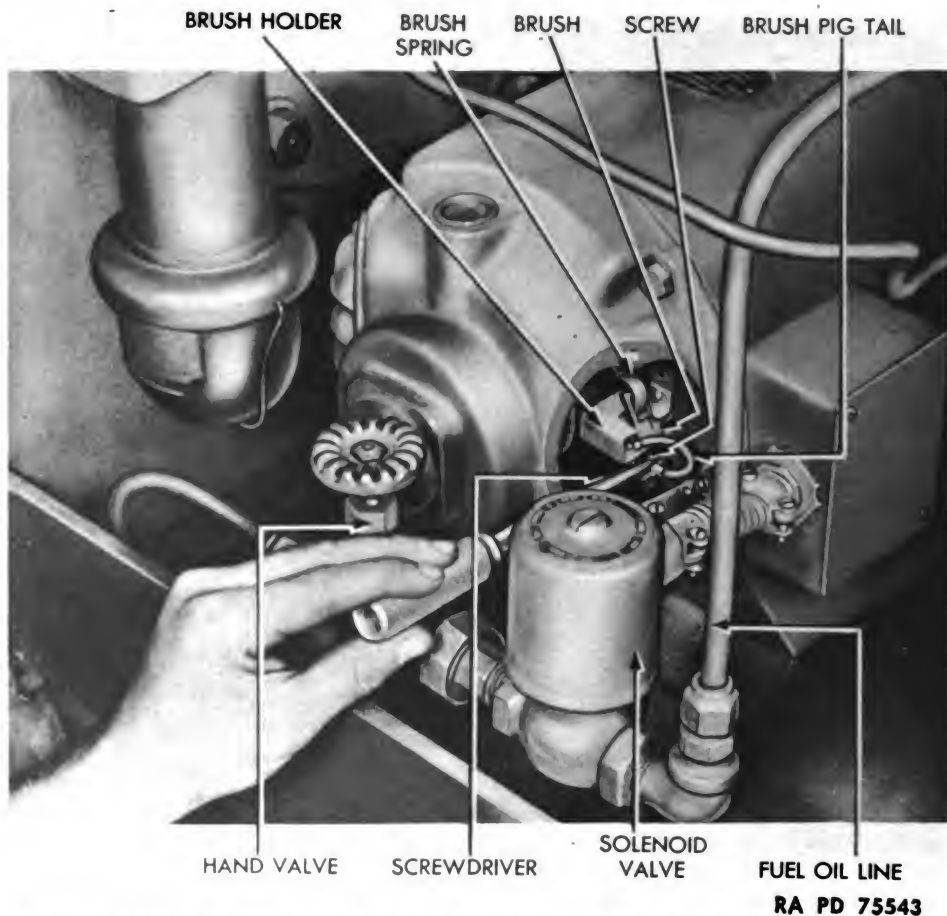

Figure 122 — Removing Steam Generating Plant Generator Brush
(3) REMOVAL OF GENERATOR BRUSH (fig. 122).
(4) INSTALLATION OF GENERATOR BRUSH (fig. 122).
(2) INSTALLATION (fig. 122).